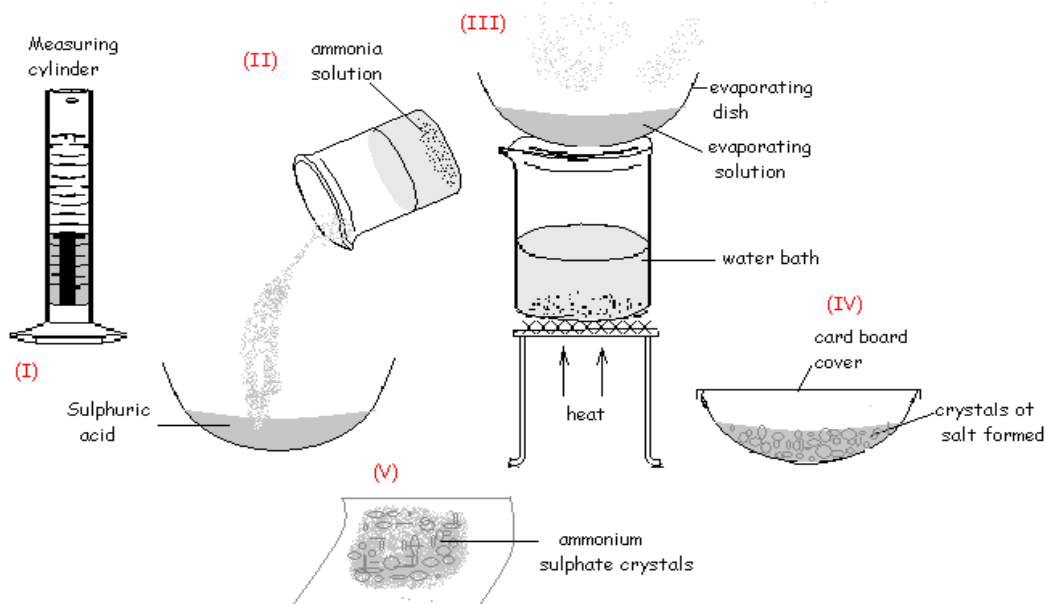

Figure 17.3: Showing preparation of ammonium sulphate
1. Follow the steps as laid in Figure 17.3 for preparation of ammonium sulphate fertilizer.